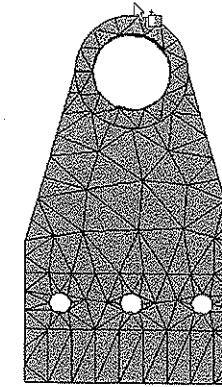

Figure 7-36 The oriented view of the model
1. Orient the model by using the tools in the **Graphics** toolbar, as shown in Figure 7-36.
3. Place the cursor at the position shown in Figure 7-36.